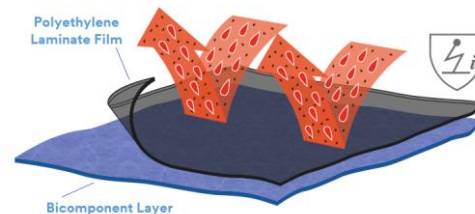

Figure 4. Non breathable laminate on Bico substrate as used on 3M™ Protective Coverall 4565
2. The second type of laminated fabrics uses a substrate made from what is known as a **Bicomponent** layer to which polyethylene film is laminated. This substrate, often called Bico fabric, is made from special fibers which have a polyester core and a polyethylene sheath. This fabric is used in the 3M™ Protective Coverall 4540+, 3M™ Protective Coverall 4545 and the 3M™ Protective Coverall 4565 (Figure 4).